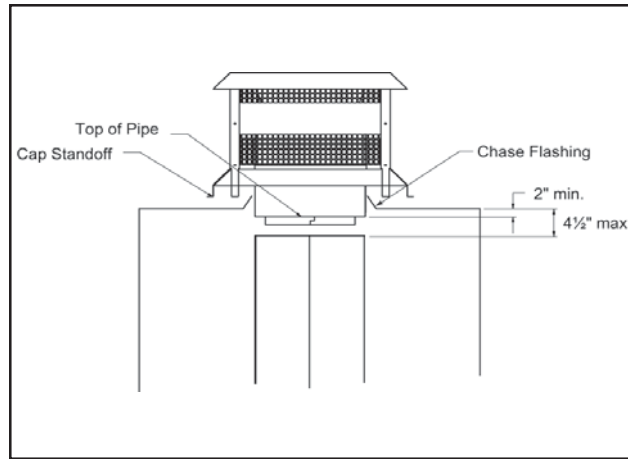

Figure 24 - Installing an ST1175 Square Termination Cap
- c. For installations utilizing an ST1175 square termination cap the last chimney section must not be more than 4½" below the chase top. See Figure 24.